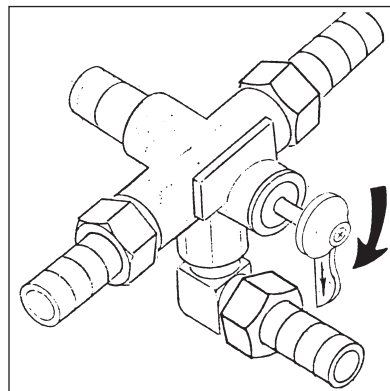

FIGURE 4
2. Treating the selector handle on the externally mounted valve as a pointer, point the tip of the handle toward the hose barb connected to the generator. (See Figure 4)